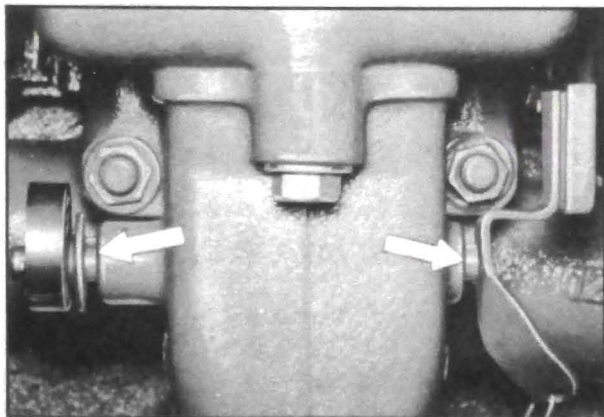

Figure 1-8—Points to Lubricate Manifold Valve Shaft
13. *Manifold Valve Shaft.* Place a few drops of graphited kerosene on shaft at each end and rotate shaft to work lubricant into bearings. See figure 1-8. If shaft is frozen, free up by tapping ends of shaft lightly with hammer.